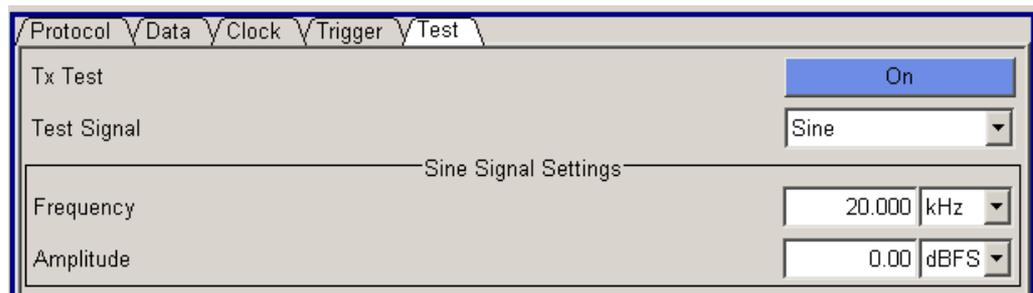

Figure 15: R&S EX-IQ-BOX transmitter settings
- XXI. Refer to Figure 15: R&S EX-IQ-BOX transmitter settings.